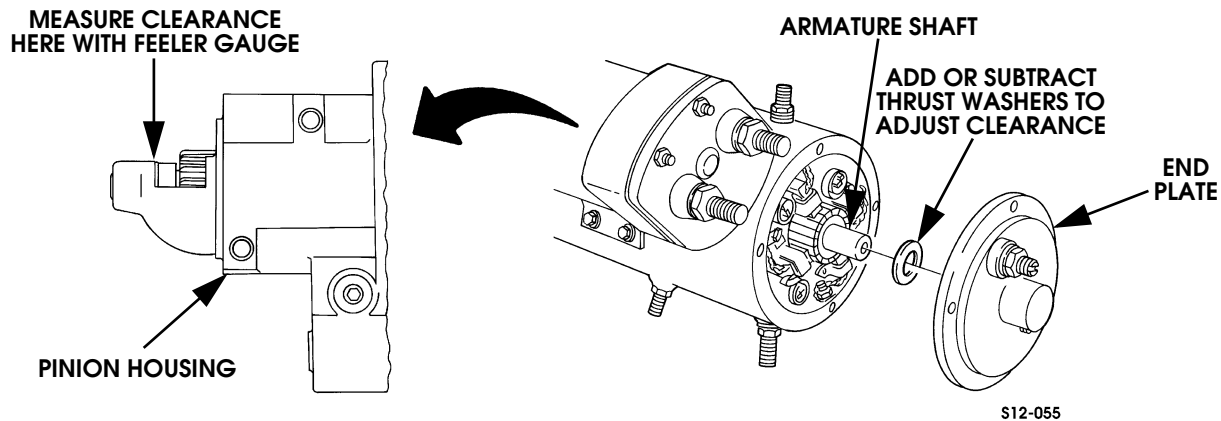

Figure 12-69: Starter Pinion Clearance Measurement and Adjustment
2. Check clearance between pinion and snap ring with feeler gauge (Figure 12-69).
4. Pinion clearance should be 0.005-0.030 in. (0.127-0.762 mm). If adjustment is necessary, remove end plate and add or remove thrust washer(s) (Figure 12-69).